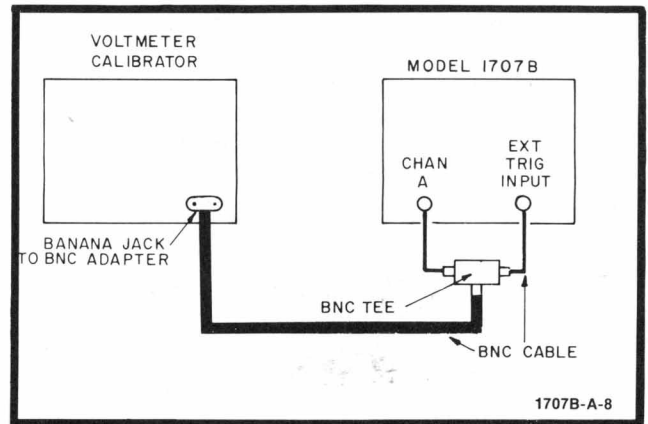

Figure 5-14. Main Trigger Level Range and Polarity Test Setup
- c. BNC cable, 9 in. (2).
- a. Connect instruments as shown in figure 5-14.